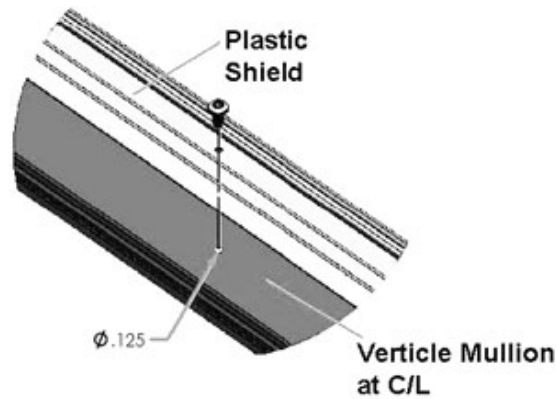

Figure 4.
- f. Using a Phillips screw driver, thread a #8 tapping screw through the plastic extrusion. Refer to Figure 4.